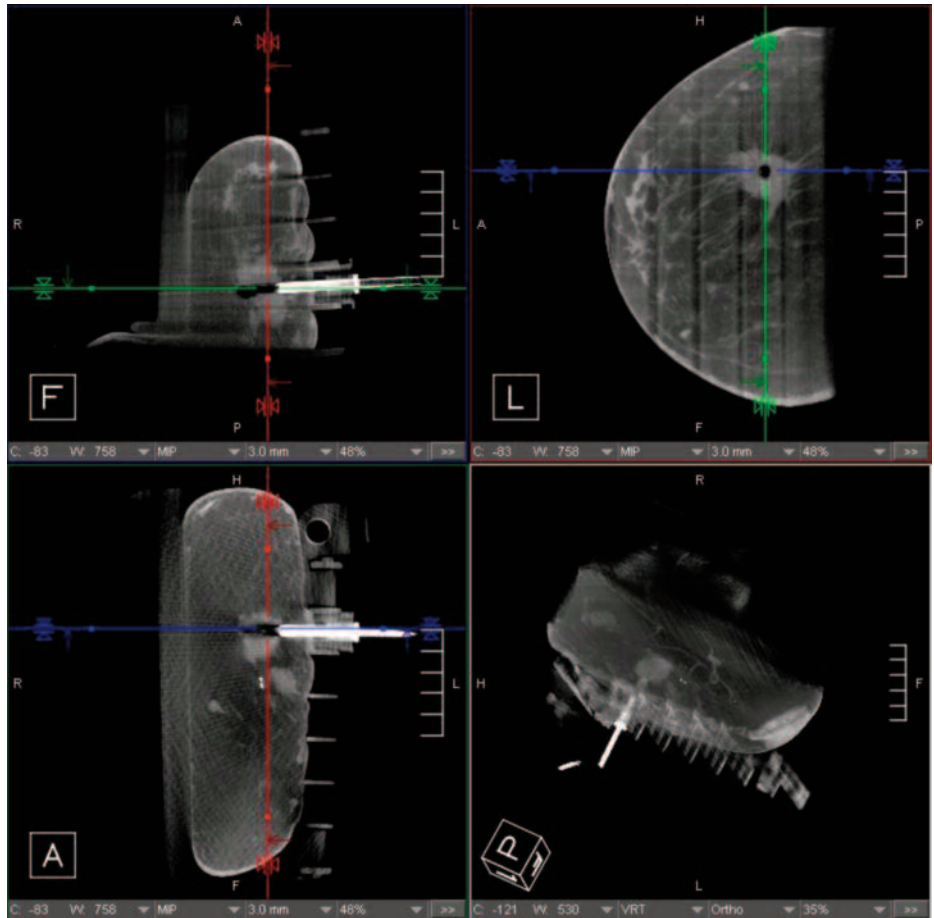

Figure B.3.1-6: Post-biopsy images to confirm biopsy
- Once the biopsy is completed, the biopsy needle is removed (leaving the introducer sheath in place) and post-biopsy KBCT imaging is performed to confirm the biopsy of the suspect area (Figure B.3.1-6). Pathology will be confirmed in the standard way